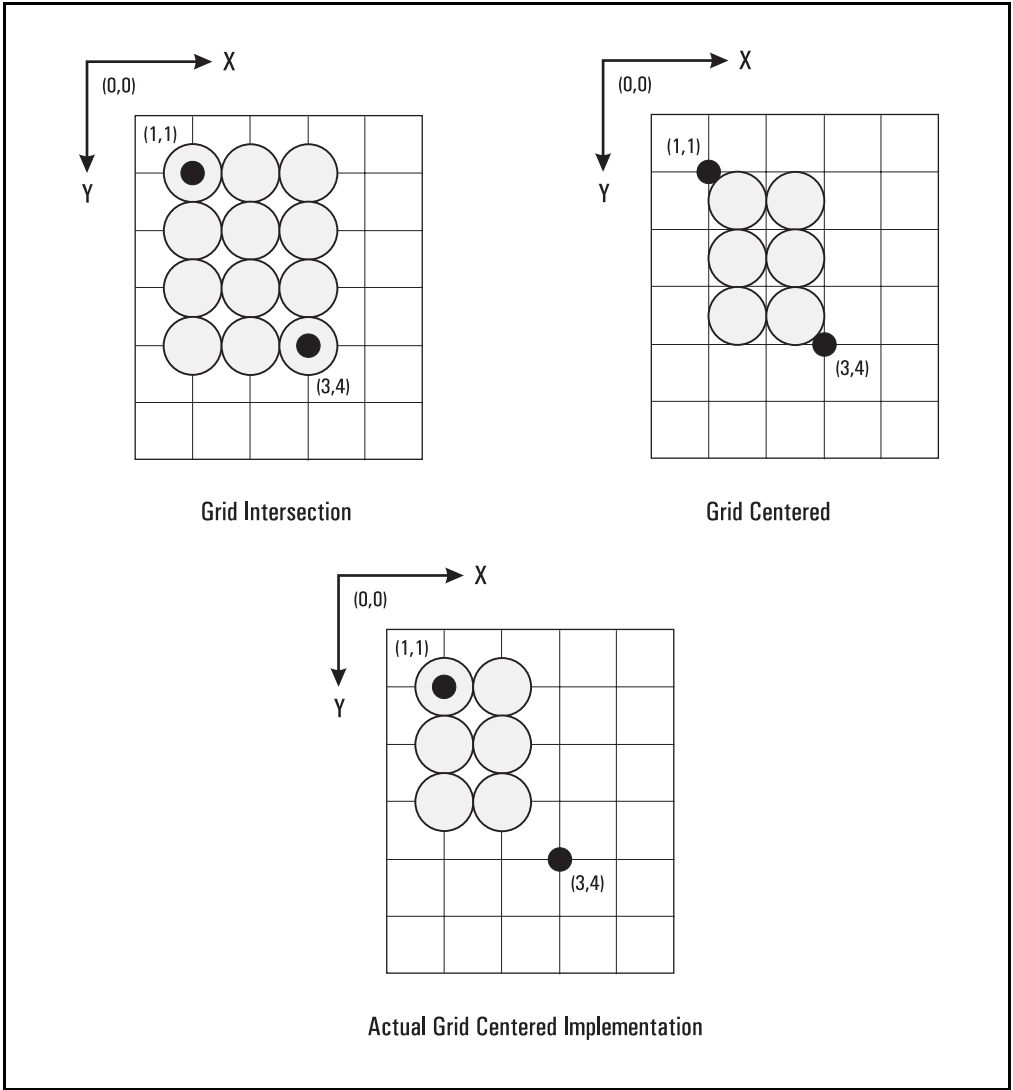

Figure 7-1 Pixel Placement
- 0 grid intersection; device draws pixels centered at grid intersections (see Figure 7-1).
- 1 grid centered; device draws pixels centered inside the boxes created by the grid (see Figure 7-1).